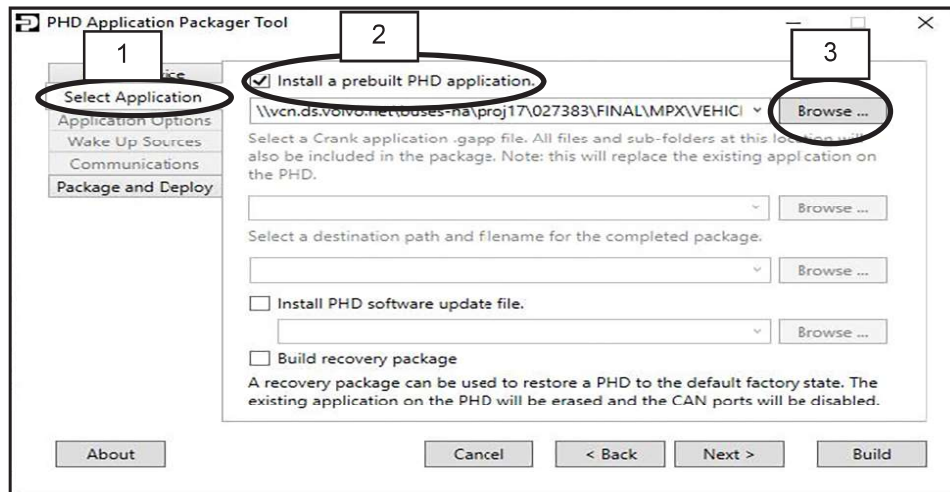

Figure 12 - Select Application - Program Window
- 1.15. Select the **Select Application** (1) tab and check the **Install a prebuilt PHD application** (2) box. See Figure 12.
- 1.16. Click the **Browse** (3) button and select the new **PHD V1.02.41** program or any higher version provided by your customer support manager. See Figure 12.